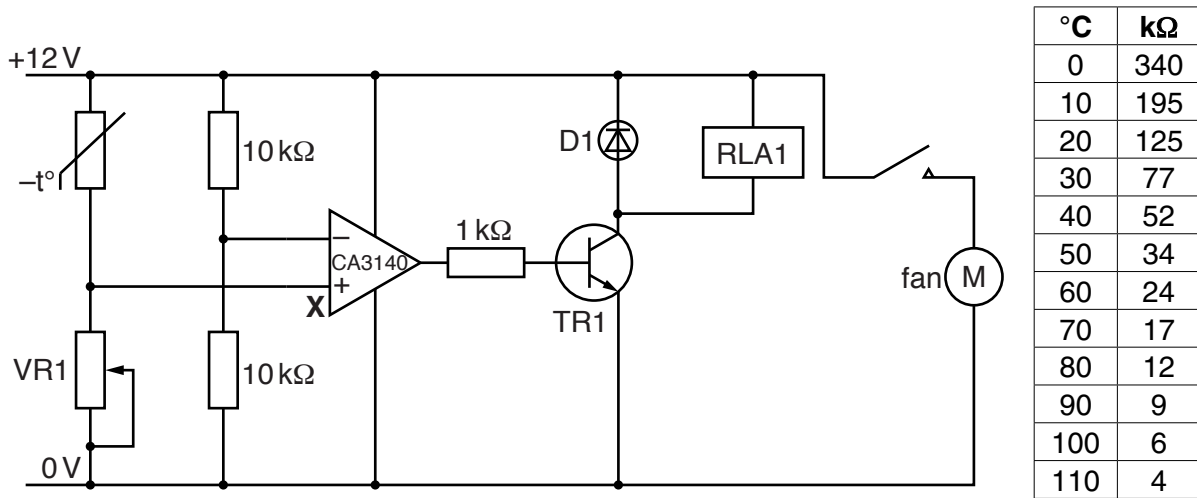
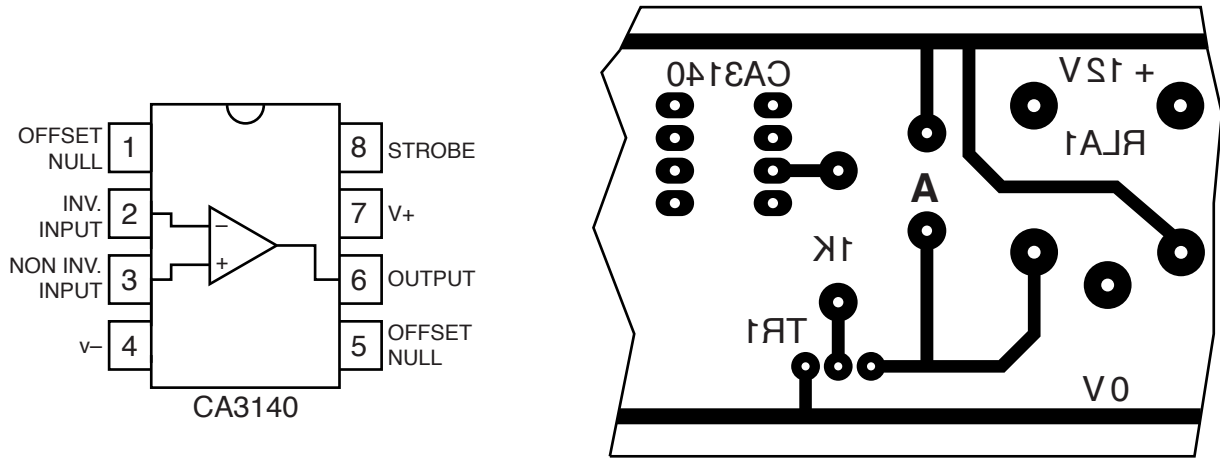

Fig. 22
Fig. 23
(c) Fig. 22 shows the circuit for controlling a car engine cooling fan.
- (v) Fig. 23 shows the pin diagram and part of a printed circuit board (PCB) layout for the operational amplifier.
- (vi) Use information from Fig. 22 to give the name of the component that fits in space **A** on the PCB in Fig. 23.